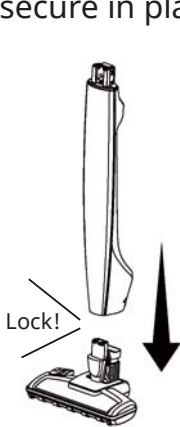

Fig.1
- Fit the vacuum cleaner body into the motorised brush head and lock into place (Fig.1).